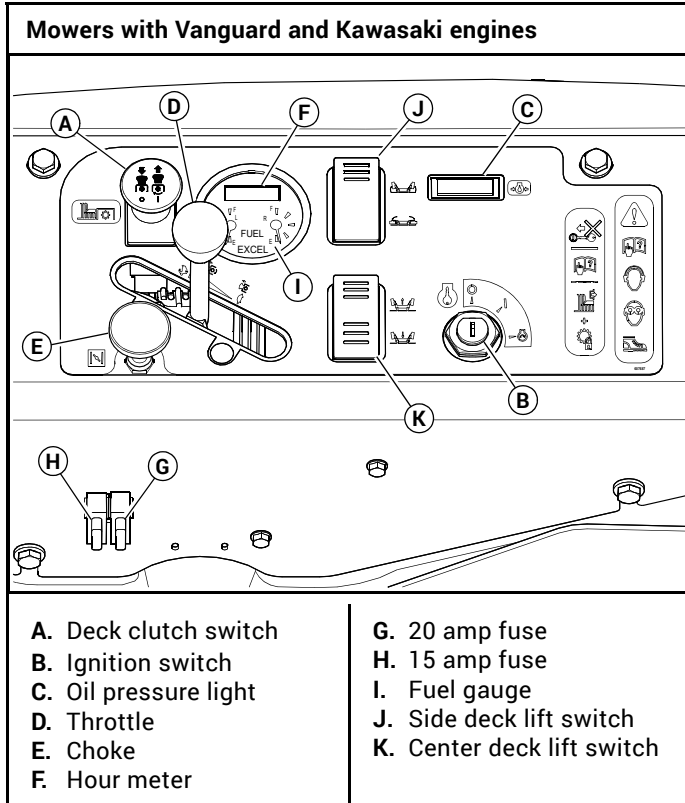
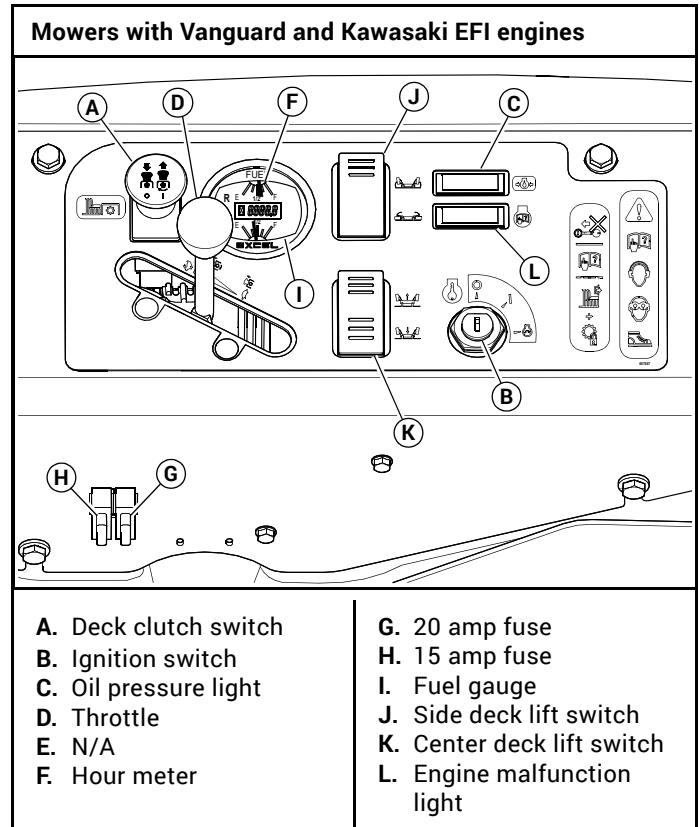

Figure 3-1
Figure 3-2
**A. Deck clutch switch (Figure 3-1 & Figure 3-2)** – this switch engages the deck. Pull the switch up to engage and push switch down to disengage the clutch.
**B. Ignition switch (Figure 3-1 & Figure 3-2)** – a three position switch: “OFF”, “RUN”, and “START”. With the key inserted, rotate it clockwise to the “START” position; release the key when the engine starts, and the switch will automatically return to the “RUN” position
**C. Oil pressure light (Figure 3-1 & Figure 3-2)** – this light comes on when the ignition switch is placed in the RUN position and stays lit until the engine is running and a safe oil pressure is developed. If the light comes on during operation, shut engine off immediately and locate and correct the problem.
**D. Throttle control (Figure 3-1 & Figure 3-2)** – a cable is linked to the engine throttle for controlling engine speed. Move the lever forward to increase engine rpm, move the lever rearward to decrease engine rpm.
**E. Choke control (Figure 3-1)** – a cable is linked to manually operate the engine choke. When the lever is in the down position, the choke is in the “OFF” (run) position. When the knob is pulled up, the choke is in the “ON” (start) position. **Do not** operate the machine in the “ON” (start) position.
**F. Electronic hour meter (Figure 3-1, Figure 3-2, Figure 3-3, & Figure 3-4)** – registers 1/10 hour increments up to 9,999.9 total hours. It is connected to the ignition switch. It records the accumulative time while the ignition key is switched to the “RUN” position.
**G. 20 amp fuse (Figure 3-1 & Figure 3-2)** – Controller - 20 amp, blade-type.
**H. 15 amp fuse (Figure 3-1 & Figure 3-2)** – Ignition and Safety systems - 15 amp, blade-type.
**I. Fuel tank gauge (Figure 3-1, Figure 3-2, Figure 3-3 & Figure 3-4)** – This gauge shows the fuel level for each fuel tank. The right gauge indicates the fuel level in the right fuel tank and the left gauge indicates the fuel level in the left fuel tank.
**J. Side deck lift switch (Figure 3-1 & Figure 3-2)** – this switch raises and lowers the side decks. Push down on the top of the switch to raise the side decks. Push down on the bottom of the switch to lower the side decks.
- K. **Center deck lift switch (Figure 3-1 & Figure 3-2)** – This switch raises and lowers the center deck. Push down on the top of the switch to raise the center deck. The center deck will lower automatically when the switch is released.
- L. **Engine malfunction light (Figure 3-2)** – this light comes on when there has been an engine malfunction on mowers with electronic fuel injection engines. Refer to the engine owner's manual for more details.